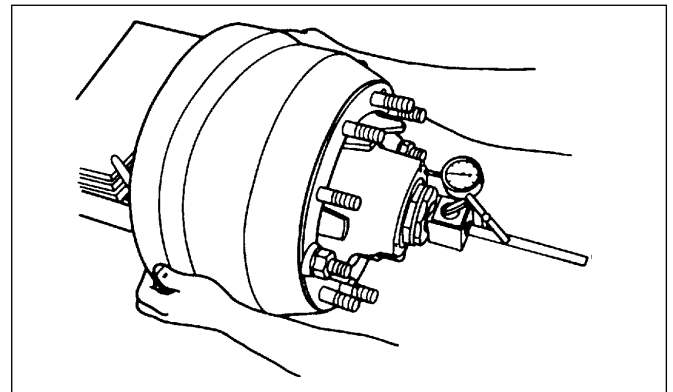

Figure 24. Measure the outward play
- c. Slightly rotate the hub in both directions while pulling outward on the assembly until the reading remains constant (Figure 24).